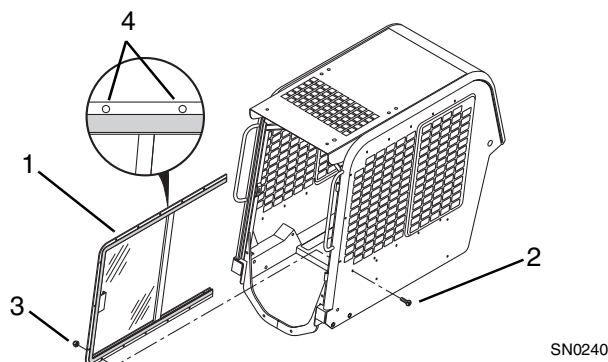

Figure 9-57 Sliding Side Window
- a. Remove the 1/4-20 x 5/8" truss head screws (Fig. 9-57, 2) and 1/4-20 acorn nuts (3), inserted into holes (4) in the sliding window frames (1), and remove both frames from the original Operator's Protective Structure.